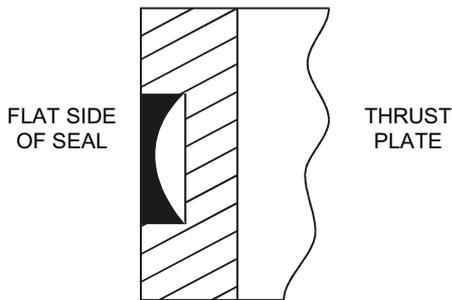

Figure 73 – Assembly of Channel Seals
- l. Assemble the channel seals into the grooves in the thrust plates with the flat side of the seal facing away from the thrust plate as shown in Figure 73.